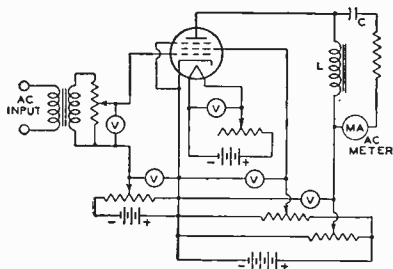

Fig. 82
Fig. 82 shows the fundamental circuit of a power-output test for class A operation of tubes. The diagram illustrates the method for a pentode. The ac voltage developed across the plate-load impedance (L) is indicated by the current meter. The current meter is isolated as far as the dc plate current is concerned by the capacitor (C). The power output can be calculated from the current reading and known load resistance. In this way, it is possible to determine the operating condition of the tube quite accurately.